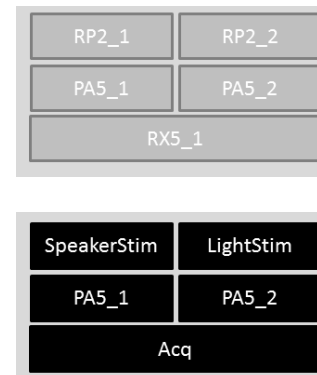

Figure 2. Unpopulated (top) and populated (bottom) device navigator
The procedure for designing new experiments with EPhys begins with assigning labels and RPvds files to the TDT hardware modules using the Device Navigator of OpenWorkbench (TDT). While labels are arbitrary in reality, descriptive labels should be used in practice. One example would be to use the label **Stim** for a module (such as an RP2.1, RX6, RZ6, or other module) which will be used to control stimulation during the experiment, such as a speaker or light. If multiple stimulus modules are to be used in an experiment then names such as **Stim1** and **Stim2**, or **SpeakerStim** and **LightStim** can be used (**Error! Reference source not found.**). One or multiple data acquisition modules (such as an RX5, RZ5, or other module) can be assigned a label in a similar manner (**Acq**, for acquisition device, is used in Figure 2). Note that not all modules need to be populated. The labels assigned in the Device Navigator of OpenWorkbench will be used to direct parameters during protocol design using the EPhys toolbox.
*NOTE: Programmable Attenuator PA5 modules should be labeled PA5 followed by a suffix if desired as is in the example in Figure 2.*